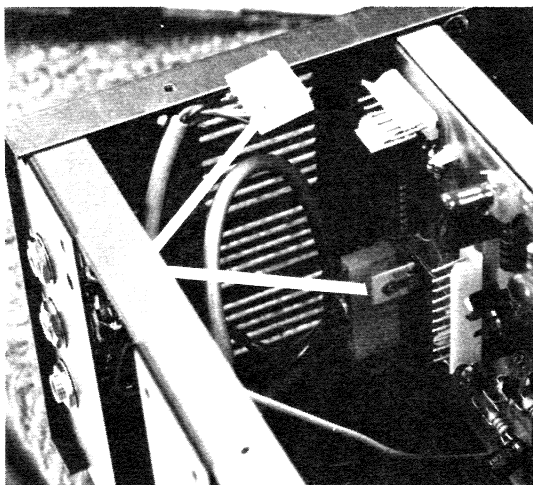

Fig. 9-2c.
- 3) Disconnect the input molex connectors (Fig. 9-2c) and output spade lugs and molex connector (Fig. 9-2d).